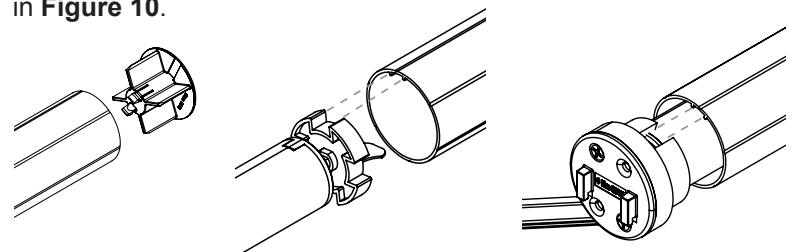

Figure 10. Insert the End Plug and Motor Assembly
Step 7. Insert the end plug (and tube adapter where required) and the motor assembly into the roller tube. Make sure to line up the tabs on the tube with channels on the driver and crown as shown in **Figure 10**.